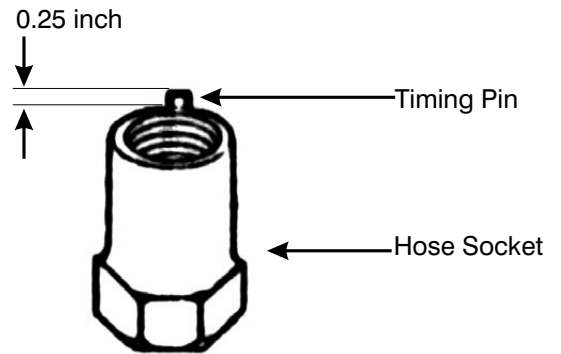

Figure 9-14. Inspect Adapter Timing Pin
- c. Whether new or used, inspect the Hose Adapter (15):
- Refer to Figure 9-14, and inspect the Hose Adapter Timing Pin for damage and correct height. The Timing Pin should extend 1/4-inch from the Hose Socket (15).